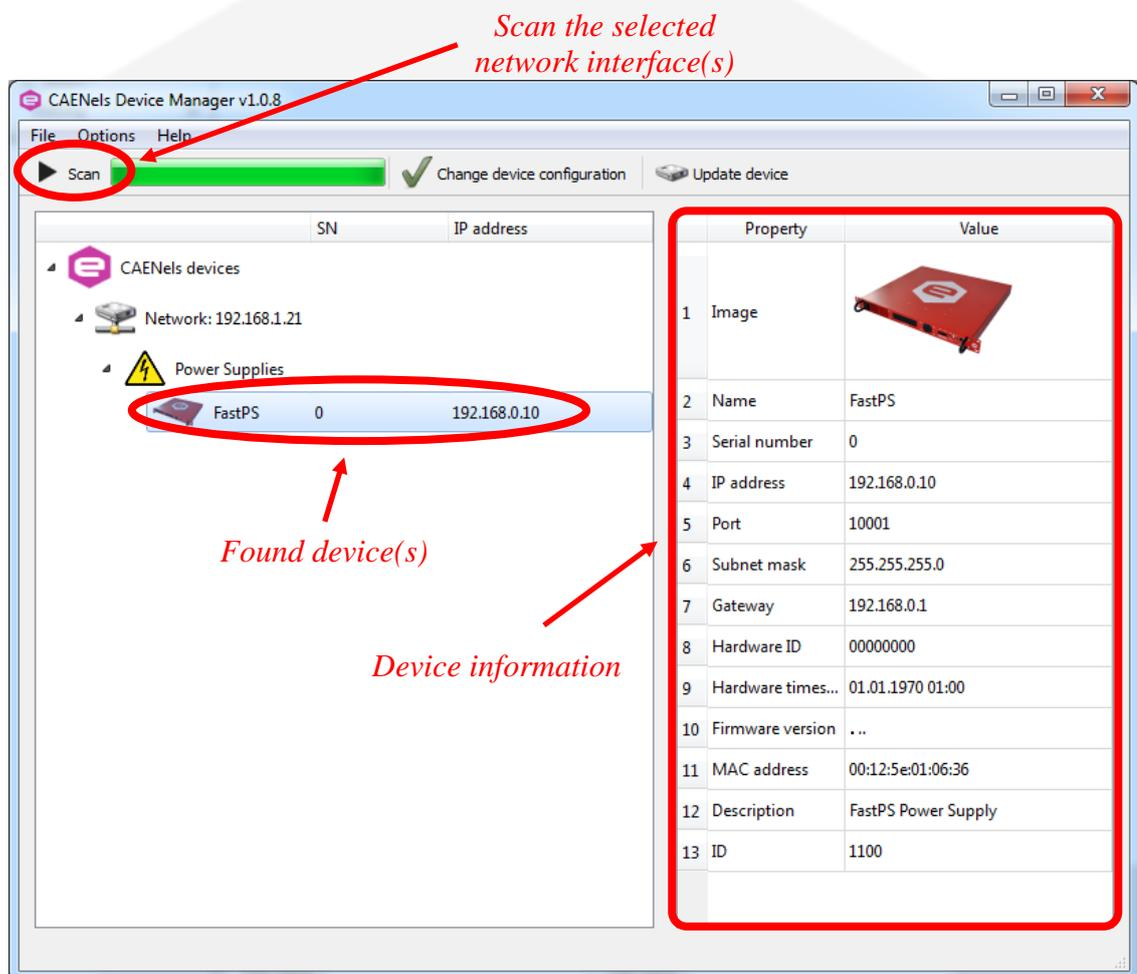

Figure 29: Device Manager - Main interface
- perform a scan to discover the connected NGPS device(s) by clicking the “*Scan*” button as indicated in **Figure 29**. If there are multiple available connections it is possible to select the network/networks to be scanned in the “*Selected network interfaces*” window available under the “*Options*” menu. All the information about the selected devices are shown in the right side of the main window.